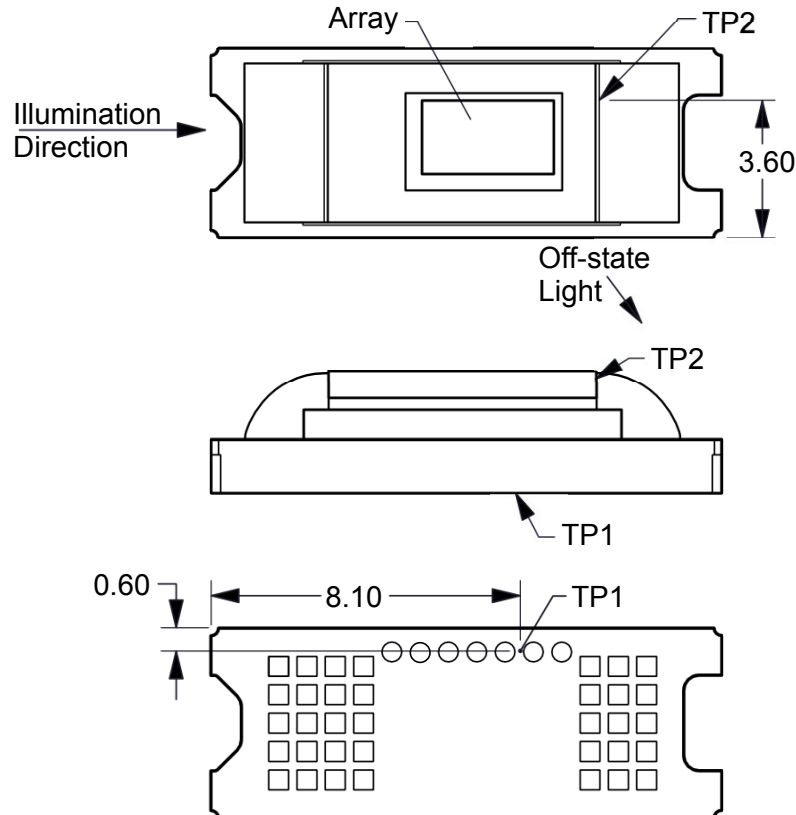

图 7-1. DMD Thermal Test Points
Micromirror array temperature cannot be measured directly, therefore it must be computed analytically from measurement points on the outside of the package, the package thermal resistance, the electrical power, and the illumination heat load. The relationship between array temperature and the reference ceramic temperature (thermal test point TP1 in 图 7-1) is provided by the following equations:
- T_{CERAMIC} = Measured ceramic temperature (°C), TP1 location in 图 7-1
- Q_{ARRAY} = Total (electrical + absorbed) DMD power on array (W)
- $Q_{\text{ELECTRICAL}}$ = Nominal DMD electrical power dissipation (W)